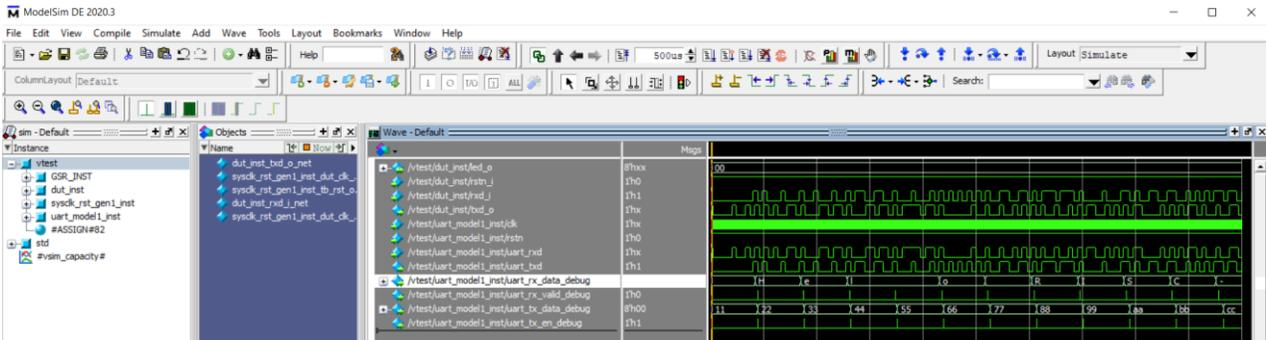

Figure 3.30. Waveform of Hello World Project
- ModelSim is launched running simulation for the SoC verification project. The corresponding waveform of the SoC verification project for the Hello World project is shown (Figure 3.30). Check the waveform.
The Hello World Project is designed to print some strings using a top-level UART port. The testbench instantiates a UART model to receive these data. Each byte (refer to `uart_rx_data` shown in Figure 3.30) can be checked using ASCII format. Meanwhile, this UART model also supports sending the data to Design Under Test (DUT). The data is stored in a text file and enabled by `STIMULUS_GEN` parameter.